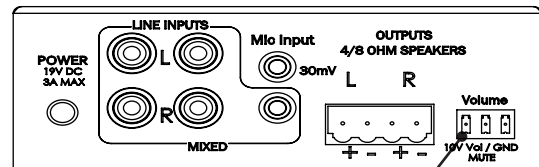

Figure 2
- 3 Insert the captive screw plug into the receptacle on the amp's rear panel (Figure 2).